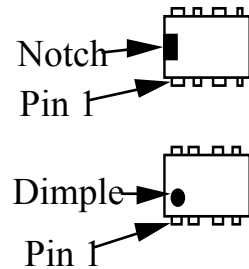

Figure 4-7
- Insert U1 into its socket, with the notched or dimpled end of the IC aligned with the notched end of the PC board outline. Figure 4-7 shows an 8-pin IC; U1 is similar but has 18 pins.) Press U1 down into the socket as far as it will go.
□ Install the 8-pin ICs, U2 (MAX518), U3 (24LC04), and U5 (LM358) on the bottom side. Orient the notched or dimpled end of each IC with the notched end of its component outline (see Figure 4-7). Bend two leads outward slightly on the opposite side of the board to hold the devices in place, but do not solder yet.